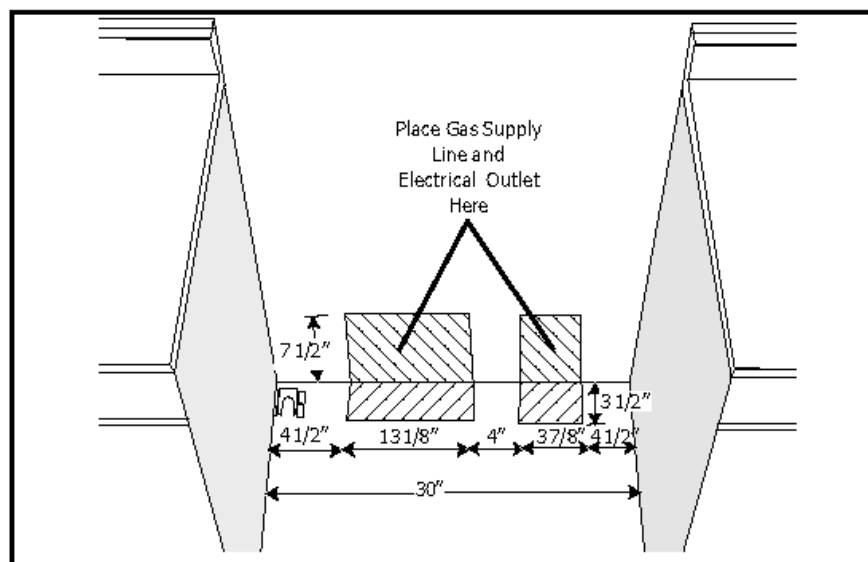

Figure 2: Gas Supply Line and Electrical Outlet Placement
**Remove Grates, Burner Caps and Burner Bases.** Remove burner grates and burner caps. Unscrew 2 T20 screws inside each base and remove burner bases (See Figure 2). Reinsert screws in jet holder to hold tubing assembly in place.